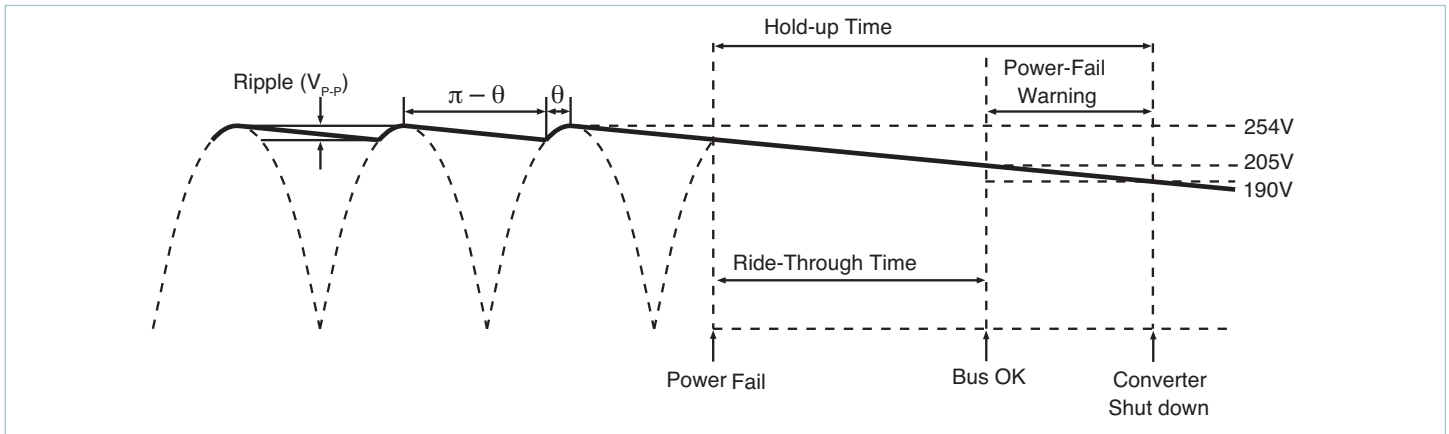
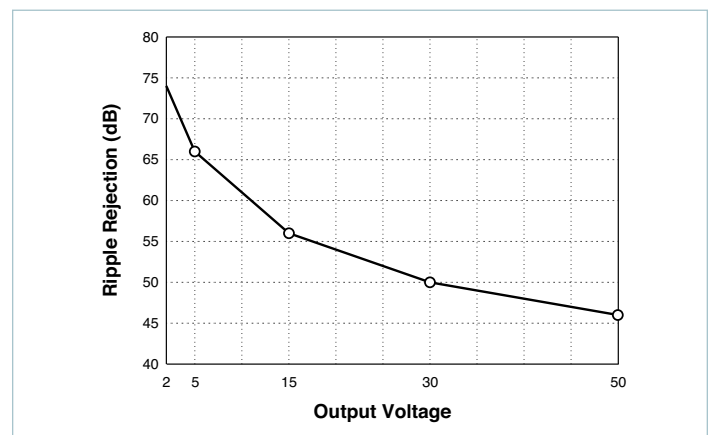

Figure 8.7 — General timing diagram of bus voltage following interruption of the AC mains
Figure 8.11 — Converter ripple rejection vs. output voltage (typical)
Hold-up Capacitors: Hold-up capacitor values should be determined according to output bus voltage ripple, power fail hold-up time, and ride-through time. (Figure 8.7)
The power-fail warning time (Δt) is defined as the interval between Bus OK and converter shut down (EN) as illustrated in Figure 8.7. The Bus OK and Enable thresholds are 205 and 190V, respectively. A simplified relationship between power-fail warning time, operating power, and bus capacitance is obtained by inserting these constants:
For example, a converter whose output is 15V and nominal input is 300V will provide 56dB ripple rejection, i.e., 10V_{p-p} of input ripple will produce 15mV_{p-p} of output ripple. (Figure 8.11) Equation 3 is again used to determine the required capacitance. In this case, V_1 and V_2 are the instantaneous values of bus voltage at the peaks and valleys (Figure 8.7) of the ripple, respectively. The capacitors must hold up the bus voltage for the time interval (Δt) between peaks of the rectified line as given by:
(Figure 8.7)
Figure 8.11 is used to determine the ripple rejection of the DC-DC converter and indicates a ripple rejection of approximately 60dB for a 12V output. Since the ripple on the bus voltage is 12V_{AC} and the ripple rejection of the converter is 60dB, the output ripple of the converter due to ripple on its input (primarily 120Hz) will be 12mV_{p-p}.